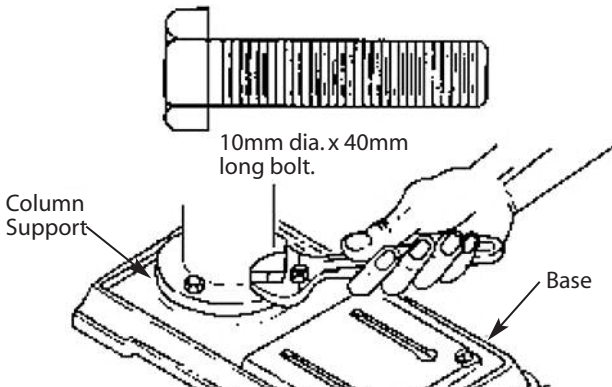

Figure 1 - Install column to base.
- Refer to Figures 1, 2 and 3.